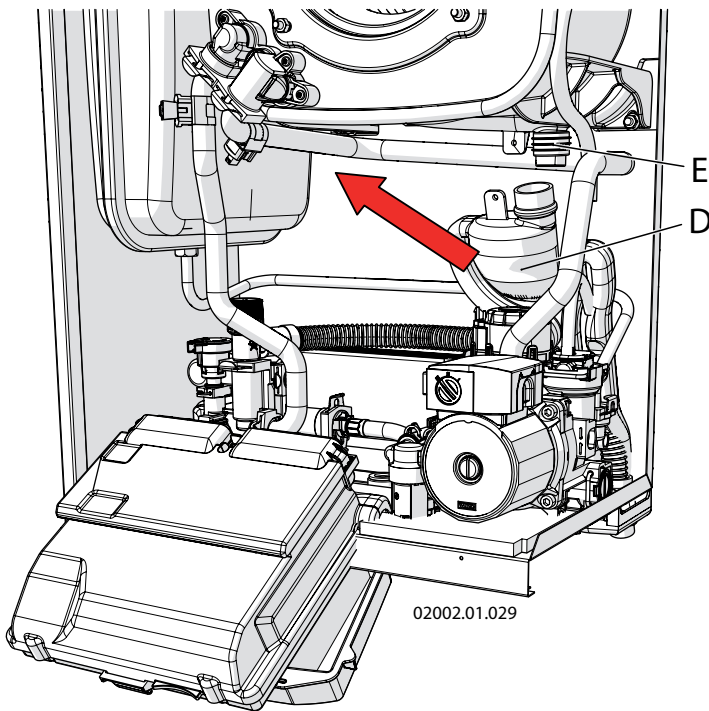

Figure 8.6 - Removal of the condensate collection siphon
- 1.- with the boiler on, open a domestic hot water cock to maximum in a way that the burner is at maximum power and the level of liquid present inside the siphon tank "D" lowers (see figure 8.6);
- 7.- extract the siphon outwards (see figure 8.6) paying attention to disconnect the collection pipes of the water coming from the upper part of the appliance and from the air vent valve.